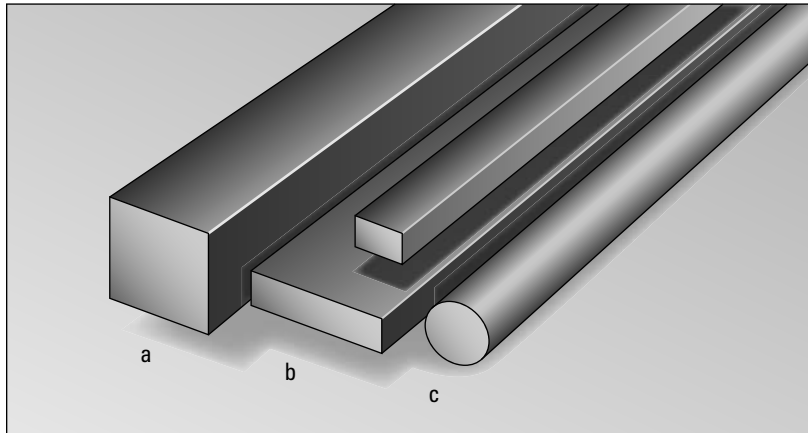

Figure 2-1: Square (a), flat (b), and round (c) steel bar shapes.
- ✔ **Steel bars** are made in an array of shapes, but the most common are round, square, or flat. You can see some examples of steel bar shapes in Figure 2-1.